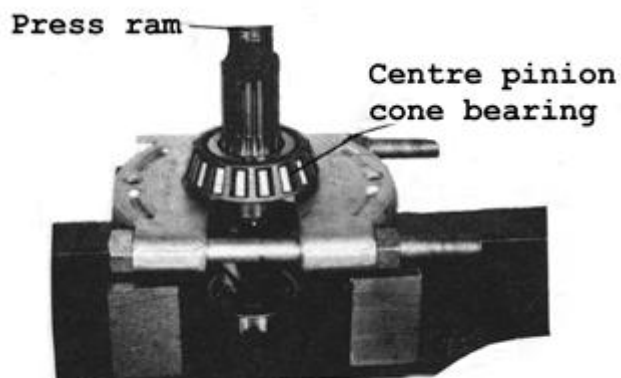

Fig 49
- * Press the centre pinion bearing cone from the pinion assembly (Fig. 49).